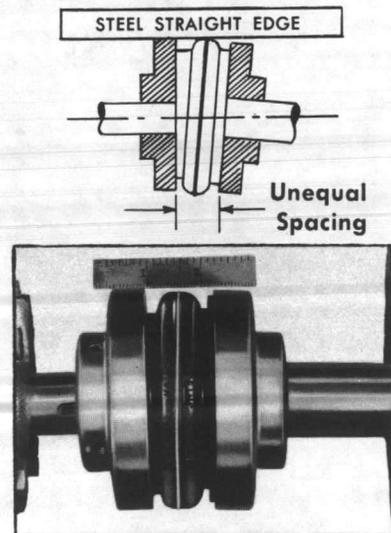

FIG. 2
5. Now, check for parallel misalignment. An ordinary 6" scale will suffice on the Sure-Flex couplings. Lay the alignment tool or scale across the outside flanges. If parallel misalignment is found, (Fig. 2) it is caused by one of the four corners of the bed plate being too high. Withdraw slightly the wedge under the bed plate nearest the "high" corner. It is also possible that the motor may have shifted over the hold-down bolts during shipment or handling. In this case, loosen the hold-down bolts and bump the motor slightly in the direction necessary to bring its shaft with coupling into perfect alignment with pump shaft.